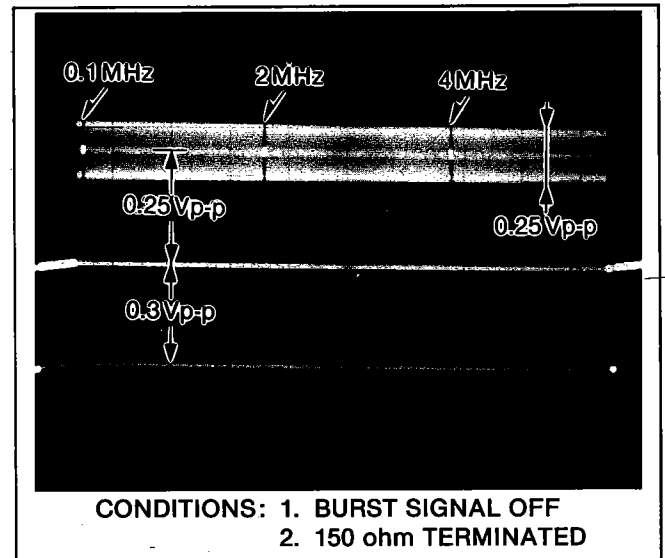

Figure E11
1. Set the output of video sweep generator as shown in Figure E11.